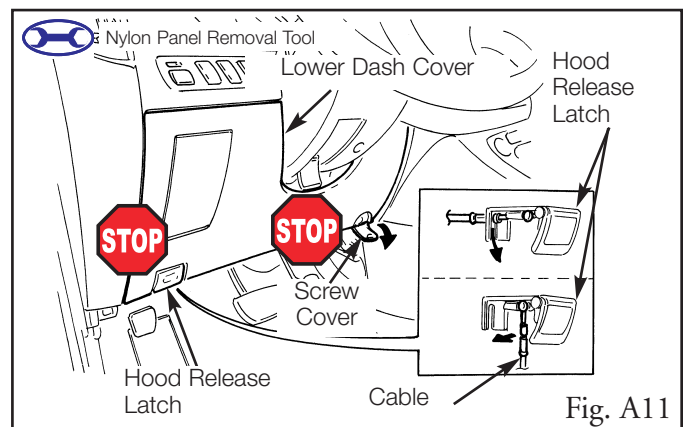

Fig. A11
11. Open the screw cover from the lower dash cover. (Fig. A11)
(Fig. A11)